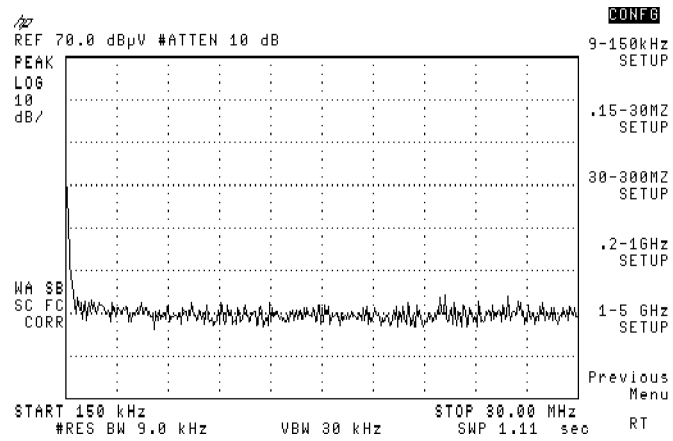

Figure 3-27. 150 kHz to 30 MHz Setup
5. Press **.15-30MZ SETUP**. See Figure 3-27.